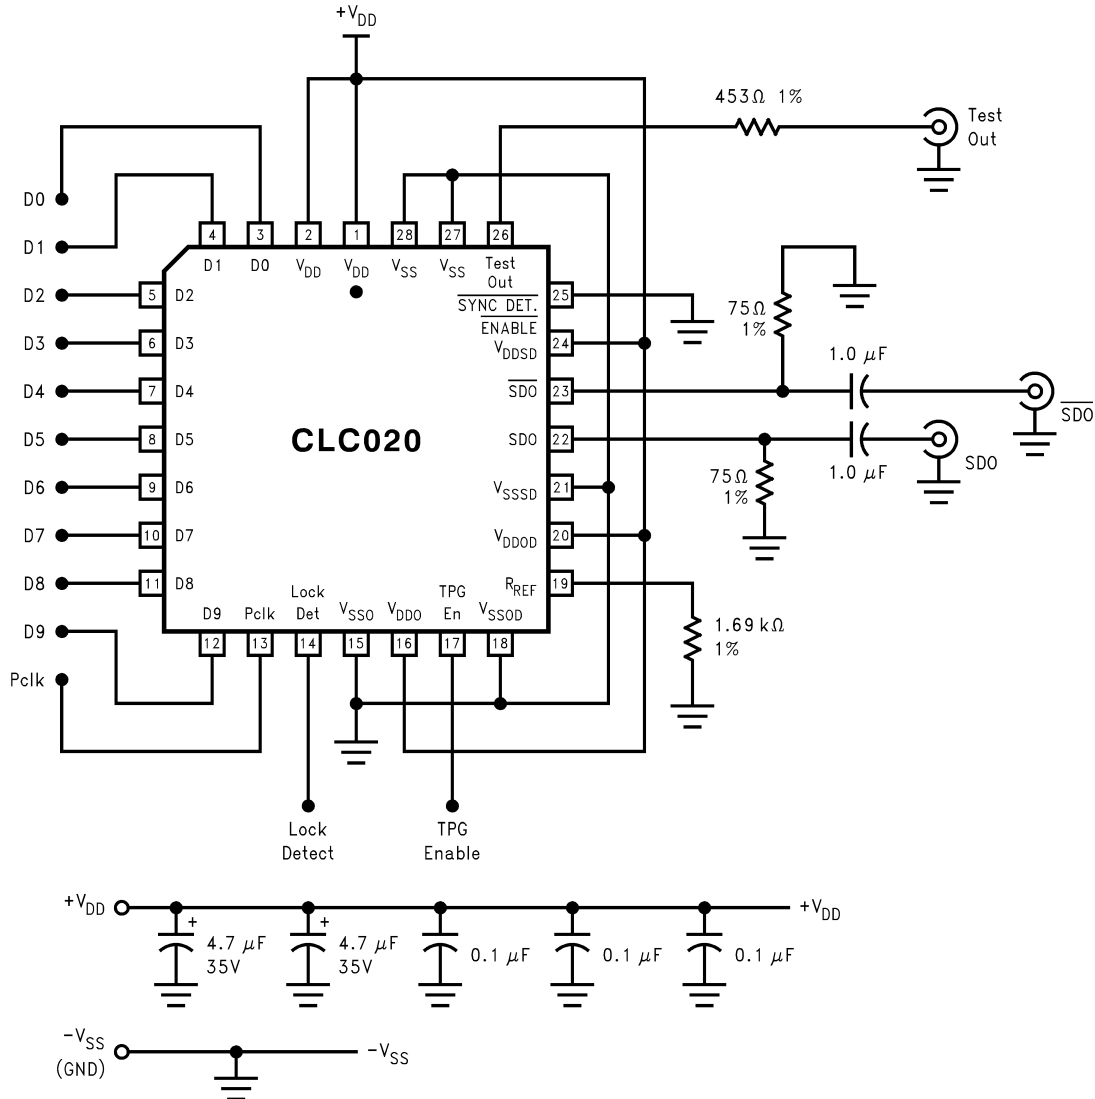

Figure 3. Test Circuit
(1) Typical values are stated for V_{DD} = +5.0V and T_A = +25°C.
(2) R_L = 75Ω, AC-coupled @ 270 Mbps, R_{REF} = 1.69 kΩ 1%, See TEST LOADS and Figure 3.
(3) CLC020 mounted in the SD020EVK board, configured in BIST mode (NTSC color bars) with P_{CLK} = 27MHz derived from Tektronix TG2000 black-burst reference. Timing jitter measured with Tektronix VM700T using jitter measurement FFT mode, frame rate, 1kHz filter bandwidth, Hanning window.
(4) Specification is ensured by design.
(5) Measured from rising-edge of first P_{CLK} cycle until Lock Detect output goes high (true).